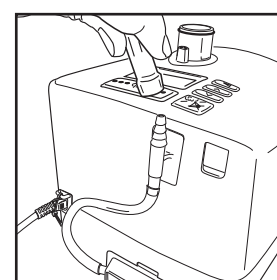

Fig. 26
For oxygen therapy, the 900PT402 oxygen inlet extension should be installed on the unit (see Fig. 26). If it is not, contact your homecare provider.
The columns represent the range of possible airflow settings to which the unit can be set. The rows represent the range of oxygen flows that can be connected to the oxygen inlet port shown in Fig. 26.
- Check that the special oxygen inlet port (900PT402) on the back of the unit (Fig. 26) is connected properly to the filter holder. Check also that the filter holder is connected correctly to the unit.
- Connect the output from the oxygen source to the special oxygen inlet port on the back of the unit. Make sure you push the oxygen tube firmly onto this oxygen port (Fig. 26). Ensure that the oxygen flow is set at the correct level for your treatment with the myAIRVO.